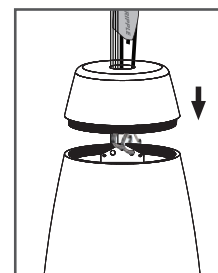

FIGURE 19:
15. Screw the top cover onto the speaker (see figure 19).